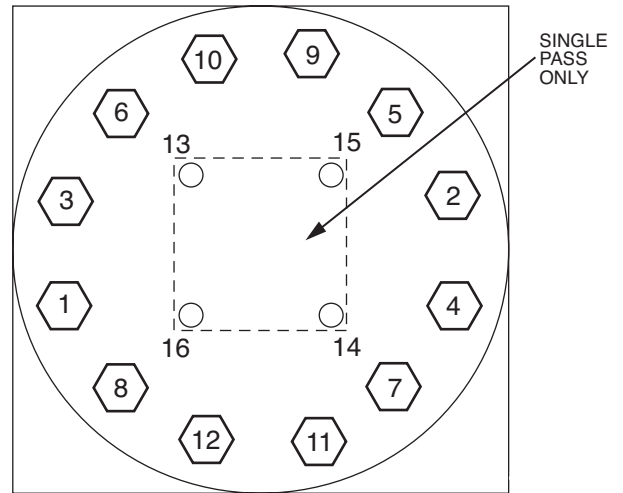

Fig. 59 — Flooded Cooler Unit Head Recommended Bolt Torque Sequence
2. Bolt tightening sequence is outlined in Fig. 59. Follow the numbering or lettering sequence so that pressure is evenly applied to O-ring.